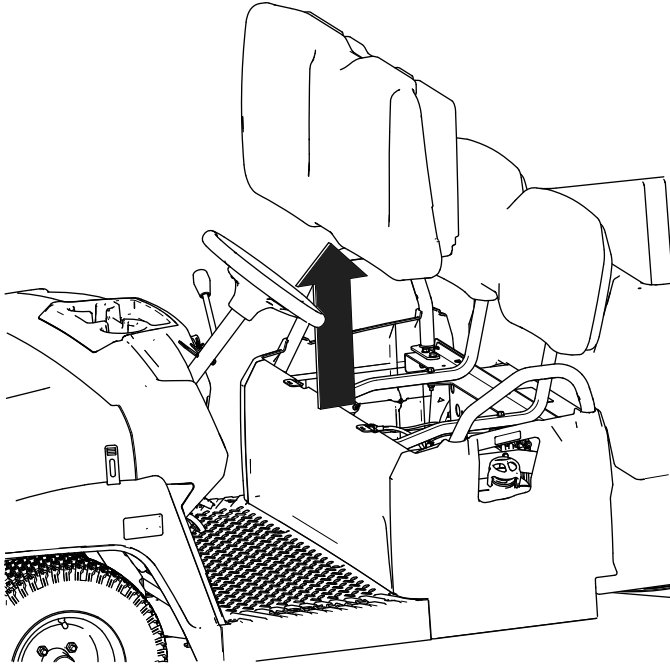

Figure 32
2. Lift the cushion upward out of the bracket. (Figure 32).